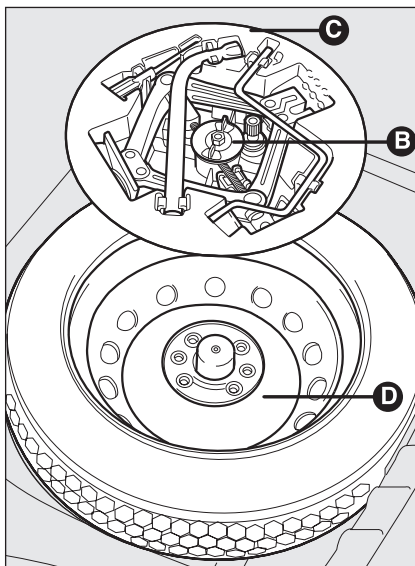

fig. 4
- loosen the fastener **B**-fig. 4;